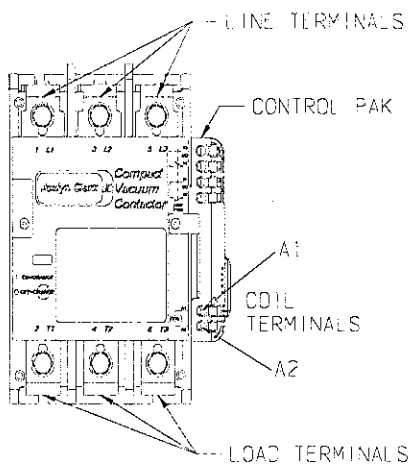
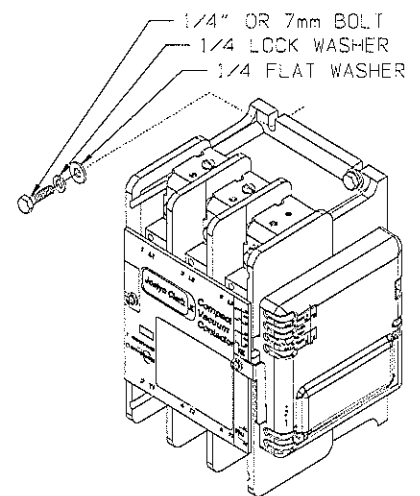

FIGURE 1
FIGURE 2
1. FIGURE 1 illustrates the field terminals for line and load terminations. Mount the contactor with the hardware specified in FIGURE 2. Loosely install the (4) mounting bolts into the intended mounting surface. Torque the mounting bolts to 5075 inch-lbs.
3. Using 75°C wire copper cable, connect the line and load conductors to the main terminals (FIGURE 1) and proper phase rotation, tighten the main terminal bolts to 11 foot lbs. torque.